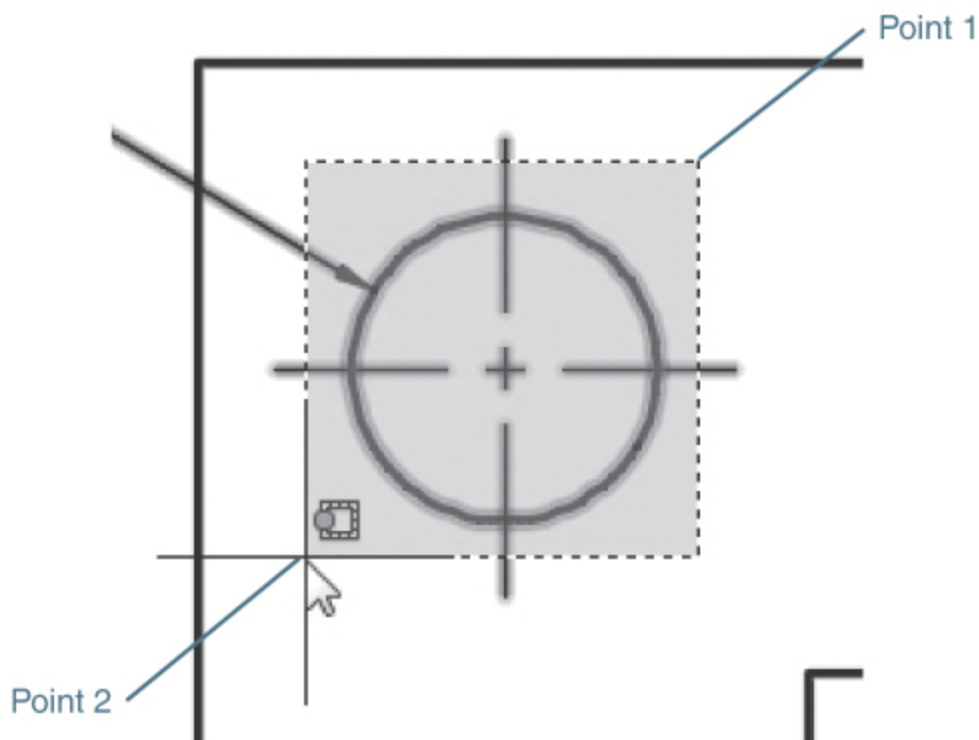

Figure 2-40
- 1 Pick a point on the screen above and to the right of the circle (point 1 in Figure 2-40). AutoCAD will prompt you: *Specify opposite corner or* \downarrow .
- 2** Move the cursor down and to the left of the circle. AutoCAD will display a dashed rectangle with a green background from the first point you picked (see Figure 2-40). This is called a **crossing window**.
- 3** Pick a point below and to the left of the circle (point 2 in Figure 2-40). AutoCAD will select all the objects that are inside or touch the edge of the crossing window you picked.